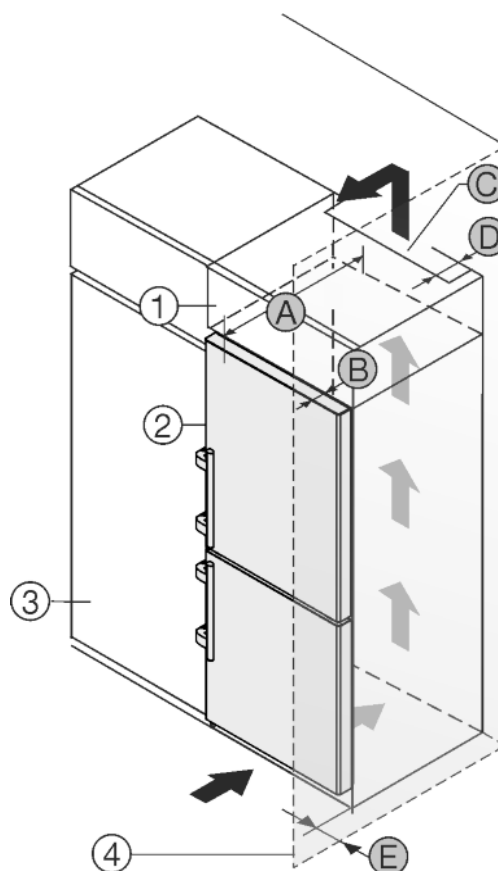

Fig. 27
The appliance can be built into kitchen units. A top cupboard *Fig. 27 (2)* can be added above the appliance in order to bring the appliance *Fig. 27 (1)* up to the height of the fitted kitchen units.
The appliance can be installed right next to the kitchen cabinet *Fig. 27 (3)*. The appliance must stick out by the depth *Fig. 27 (B)* from the front of the cabinet so that the doors can be opened fully. The appliance may protrude further depending on the depth of the kitchen cabinets and whether wall spacers are used.
- There must be a ventilation shaft with the depth *Fig. 27 (D)* at the back of the top cupboard over the entire width of the cupboard.
- The ventilation shaft *Fig. 27 (C)* must be observed under the ceiling.
If the appliance is installed with the hinges next to a wall *Fig. 27 (4)* the distance *Fig. 27 (E)* between the appliance and the wall must be observed. This is how far the handle protrudes when the door is open.